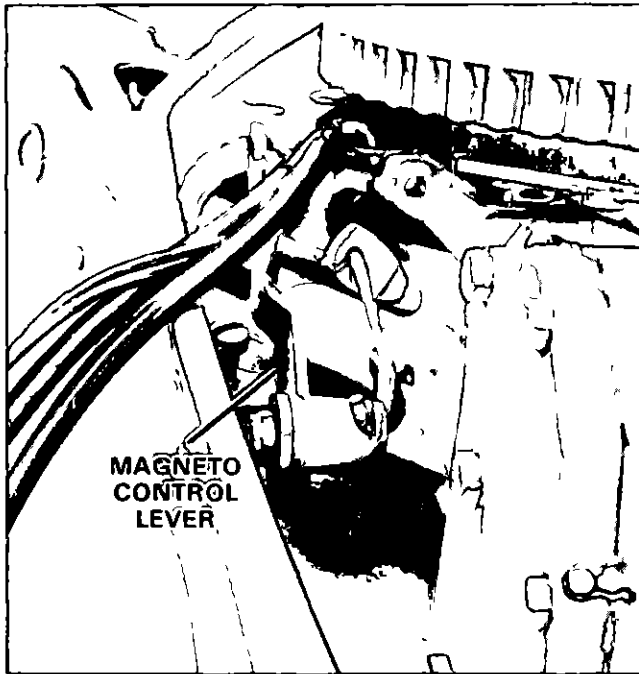

Figure 8. Magneto Control System
- 6 Disconnect magneto control lever Figure 8